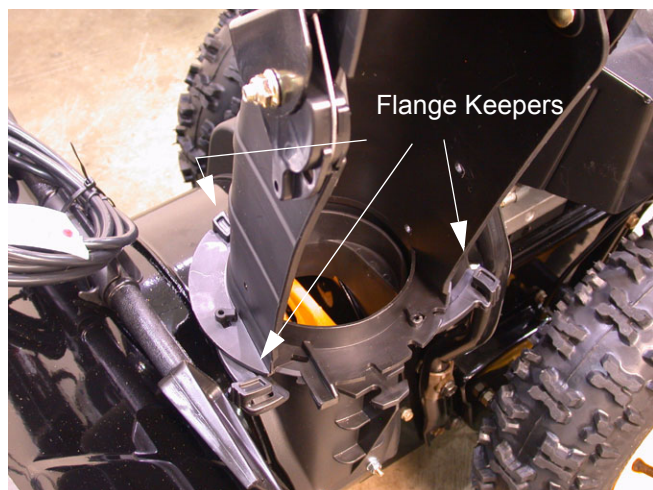

Figure 3
- 2.2. Close the flange keepers to secure the chute to the base. See Figure 3.